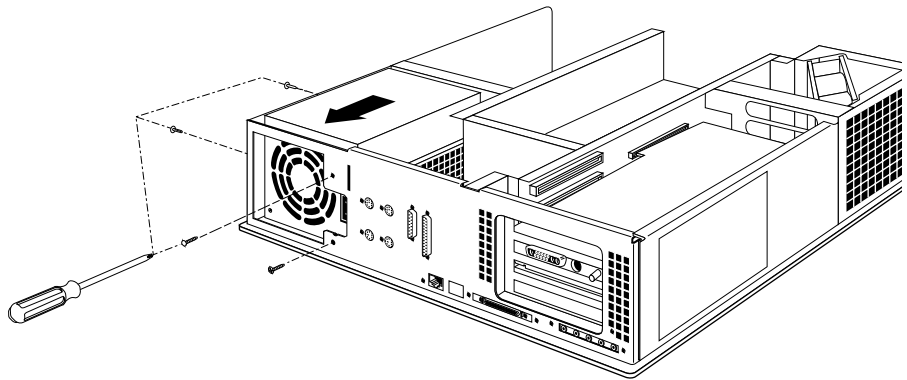

Figure 2-8 Installing the Power Supply
10. Install the new power supply, as shown in Figure 2-8.
- Replace the four screws that hold the power supply, in the locations shown in Figure 2-8.